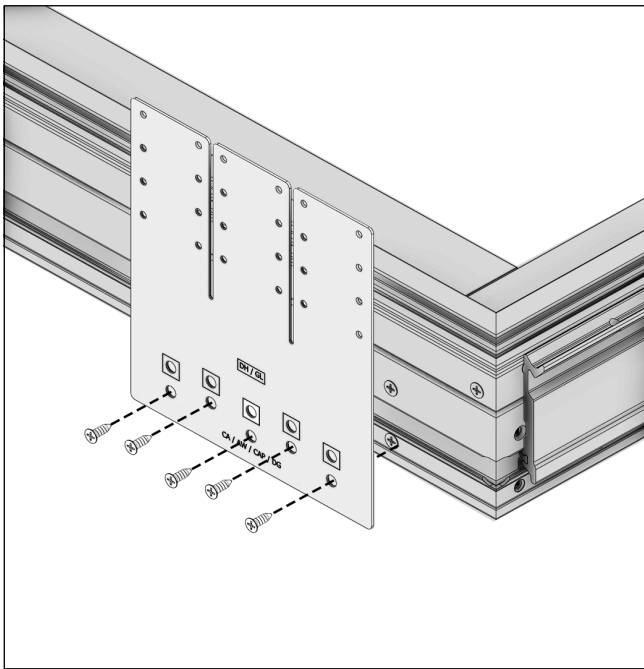

Figure 62 Fasten split gusset
4. Install the split gussets by aligning the edge of the gusset to the edge of the frame, from the bottom of gusset to the top edge of T-slot at all factory pre-assembled mull joints. Fasten with the split gusset with the supplied #7 x 1/2" screws. See Figure 62.